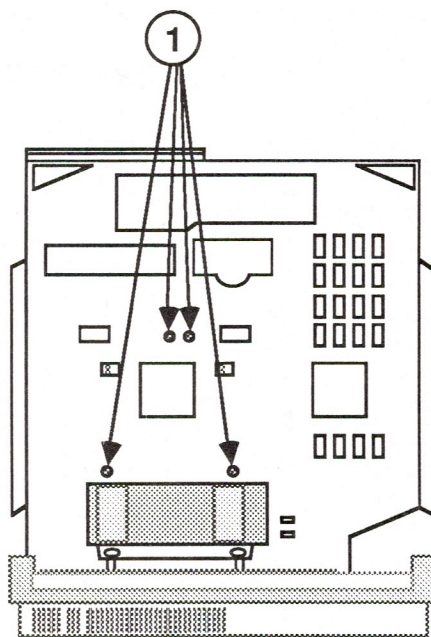

FIGURE 28
5. With the bottom of the Macintosh SE chassis facing you, remove the four Phillips screws (Figure 28, #1) that secure the lower 800K drive to the bottom of the metal chassis. Lift the drive free.
4. Replace the four Phillips screws (Figure 28, #1) that secure the 800K drive to the bottom of the metal chassis.